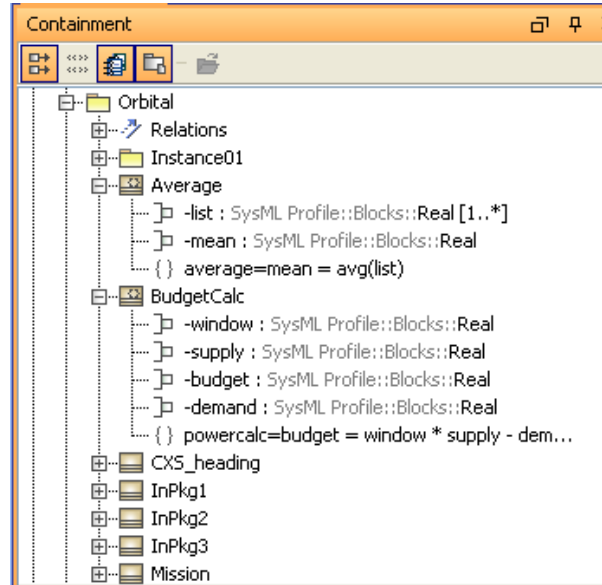

Fig. 6.4 Constraint Blocks
5. Create two constraint blocks, Average and BudgetCalc, as shown in Figure 6.4. Note that Average uses list, a constraint parameter with multiplicity larger than one. To change the multiplicity of a constraint parameter, RC the constraint block in the BDD diagram. Average calculates the average of all the values contained in list and returns a single value result, mean. The ParaMagic User Guide provides a list of Mathematica functions that act on arguments with multiplicity ≥ 1 .